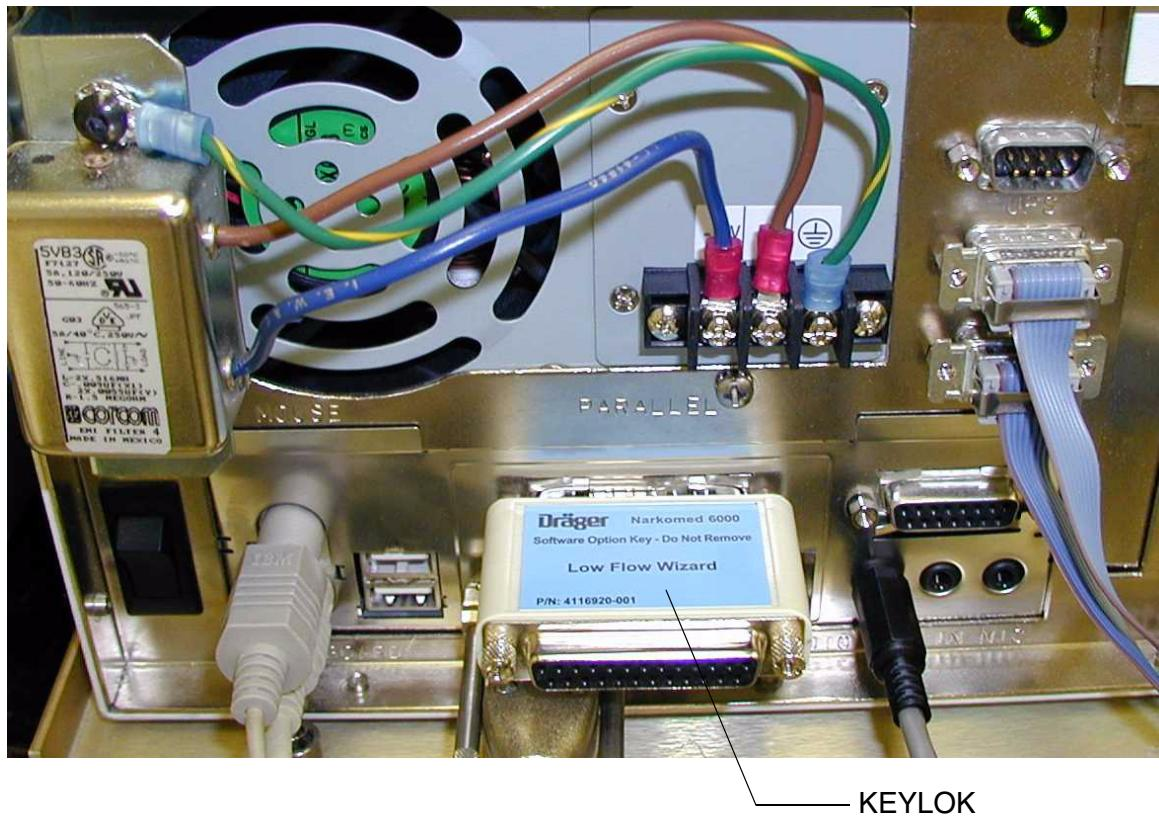

FIGURE 6. Typical Keylok Location
1.22 Install the correctly configured Keylok in the WPU parallel printer port and secure it using a small slotted screwdriver. See FIGURE 6.
- 2.6 Locate the WPU parallel printer port. If the port has a previously installed Keylok assembly, remove it. See FIGURE 6.